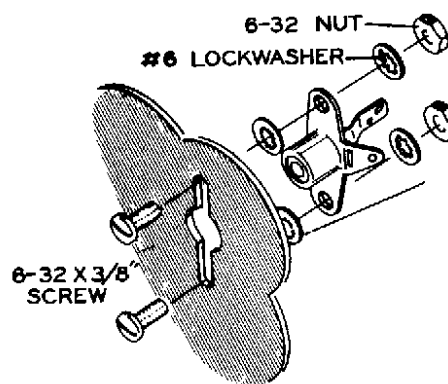

Figure 4
- (✓) Install the phono socket at X, using 6-32 x 3/8" screws, #6 lockwashers, and 6-32 nuts as shown in Figure 4.